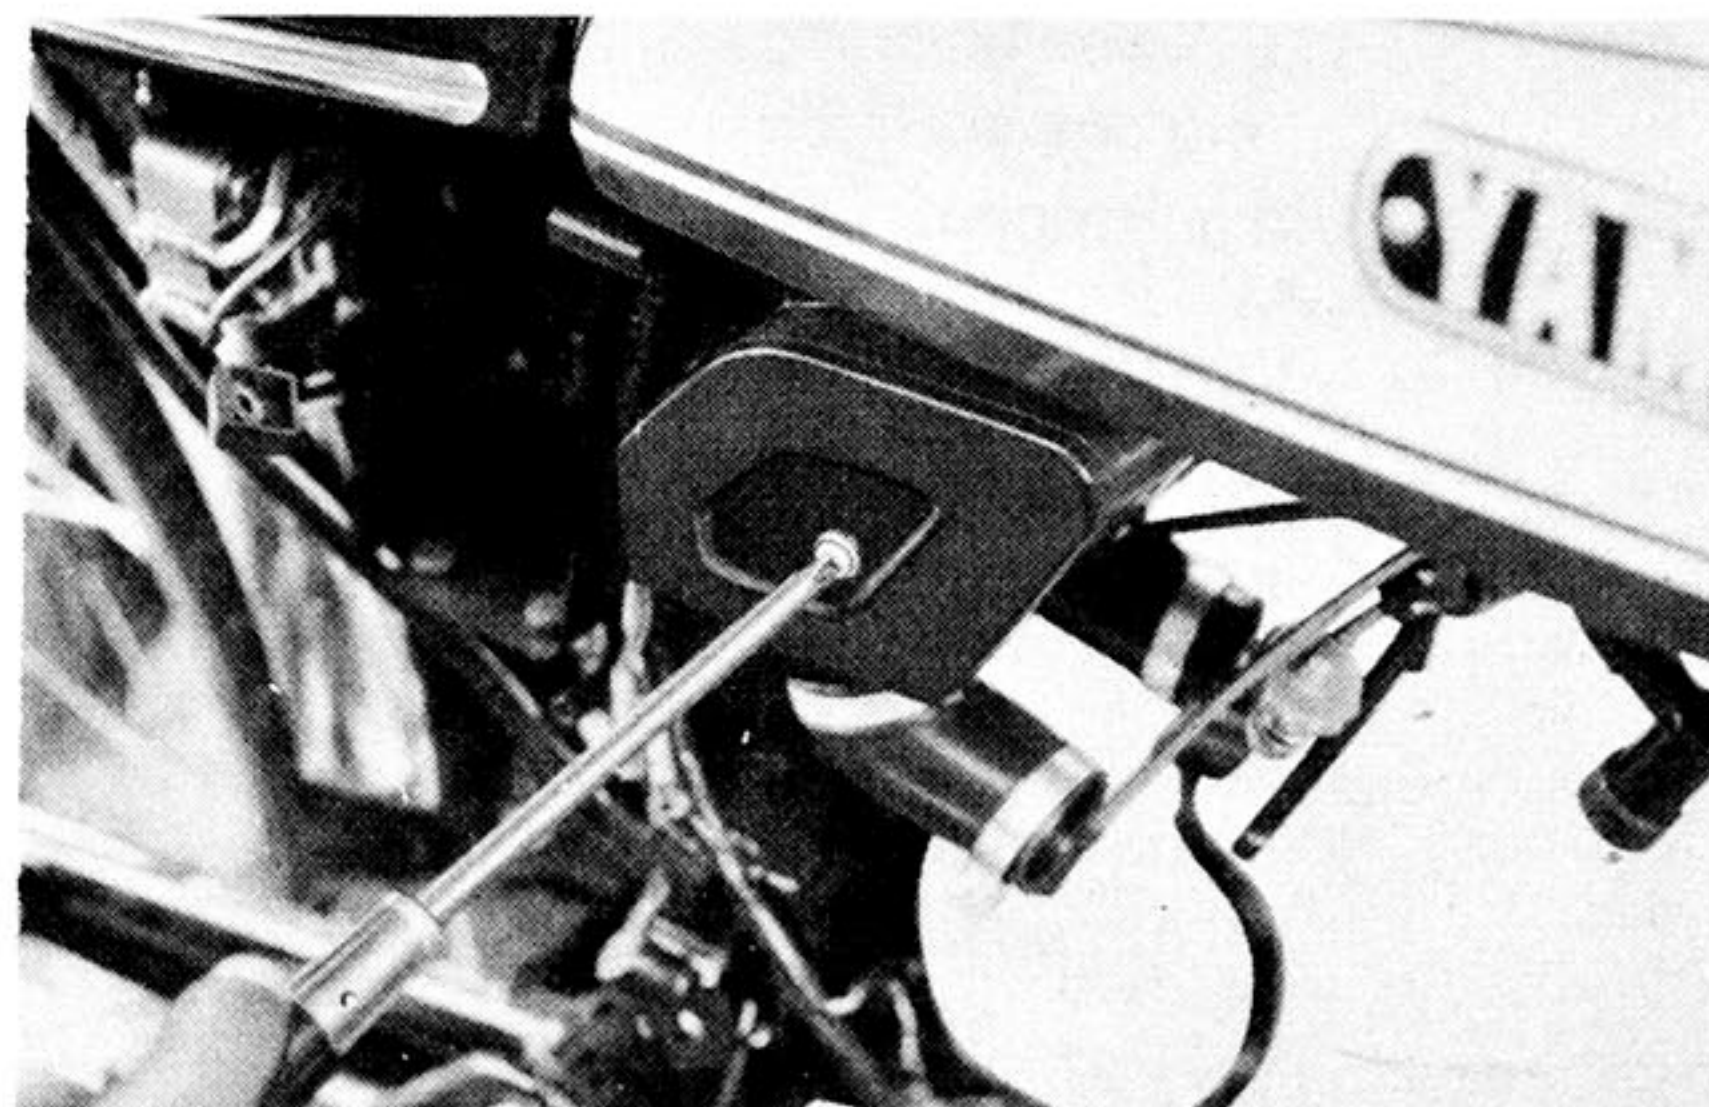

Fig. 4-20-1
- (1) Remove the side covers, both right and left.
- (2) Remove the air cleaner case bolt and take out the element (Fig. 4-20-1)